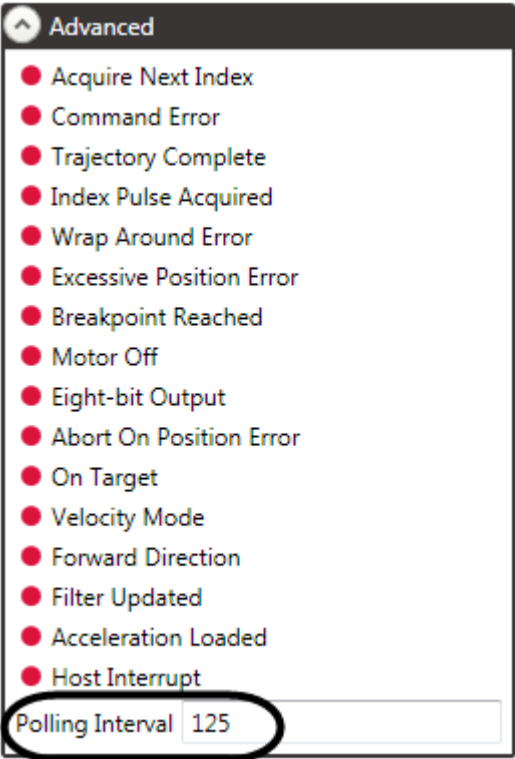

Figure 91
3. Enter a new value in the **Polling Interval** field (Figure 91).